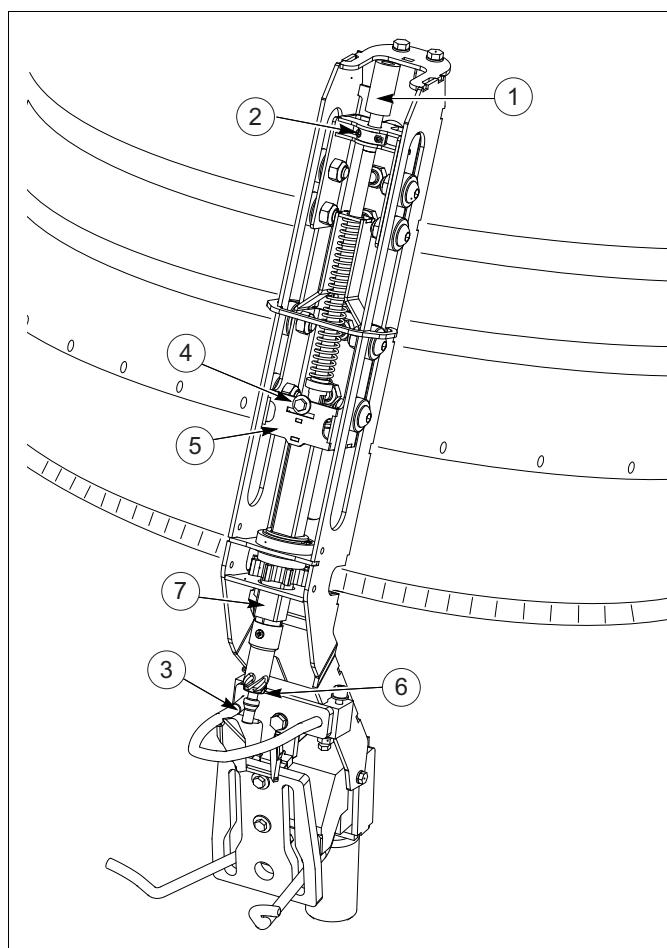

fig. 73 Demounting and mounting the pin and clamp
See fig. 73.
6. Connect the vent cutter to the overhead conveyor. See paragraph 9.2 Disconnecting and connecting the machine from the overhead conveyor. See fig. 73.